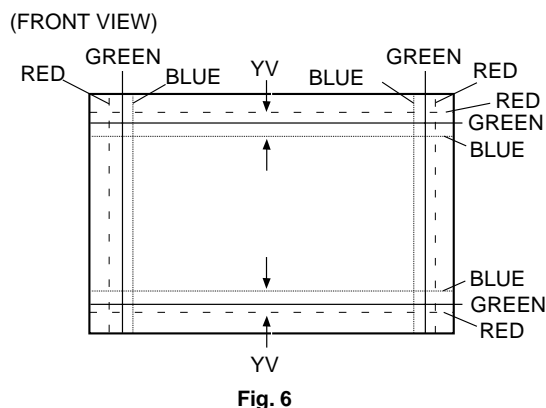

Fig. 6
2. Using the Y_V VR on the deflection yoke, match the Y_V . (Fig. 6 and 8)